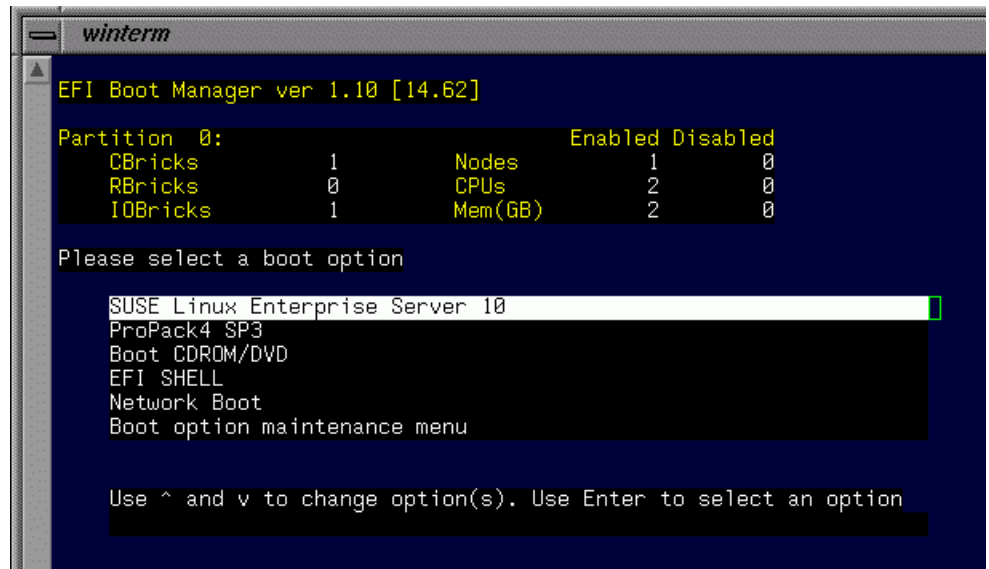

Figure 2-1 EFI Boot Manager Menu
2. When the system returns to the **EFI Boot Manager Menu**, boot the system on the SLES10 SP1 Install DVD via the Boot CDROM/DVD boot option as shown in Figure 2-1.